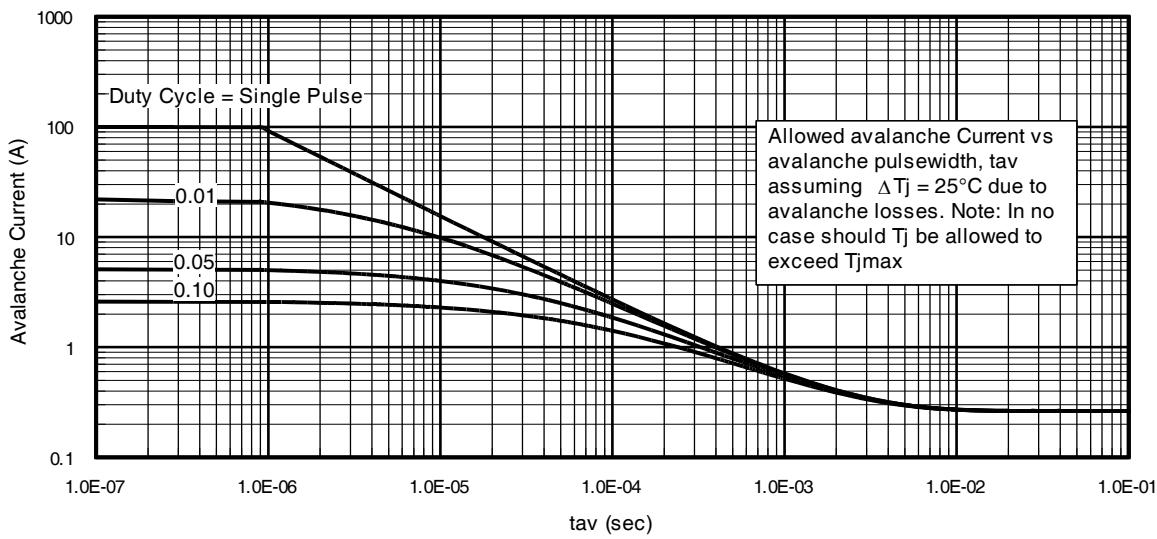

Fig 15. Typical Avalanche Current Vs. Pulse width
Notes on Repetitive Avalanche Curves , Figures 15, 16:
7. ΔT = Allowable rise in junction temperature, not to exceed T_{Jmax} (assumed as $25^\circ C$ in Figure 15, 16).